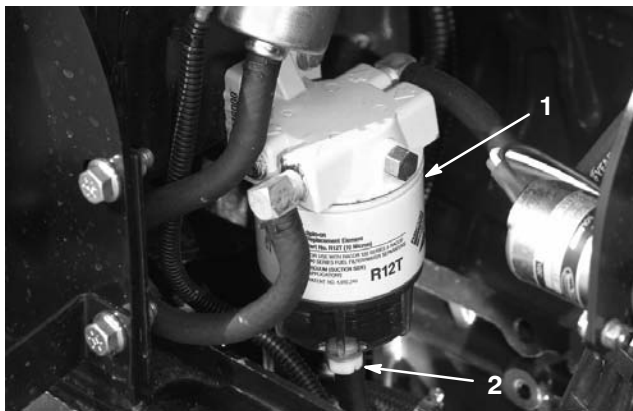

Figure 48
Drain water or other contaminants from the water separator (Fig. 48) daily.
2. Loosen the drain plug on the bottom of the filter canister (Fig. 48). Tighten the plug after draining.